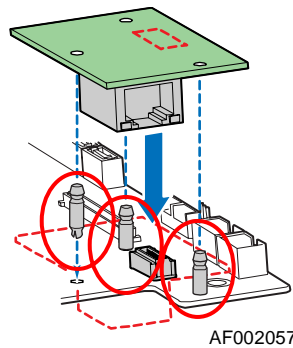

Figure 3: Installing the Intel® RMM2 Dedicated NIC Module
- Next, insert three plastic standoffs into the holes of the Intel® RMM2 NIC module. See Figure 3.